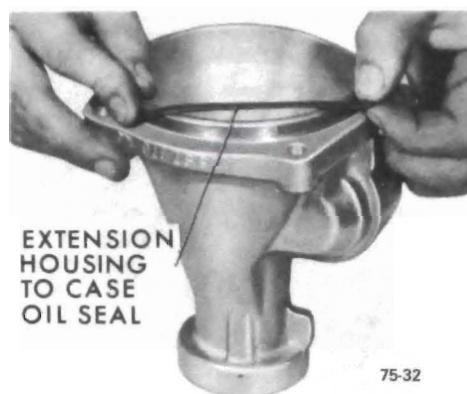

Figure 75-58
1. Remove extension housing to case oil seal. See Figure 75-58.